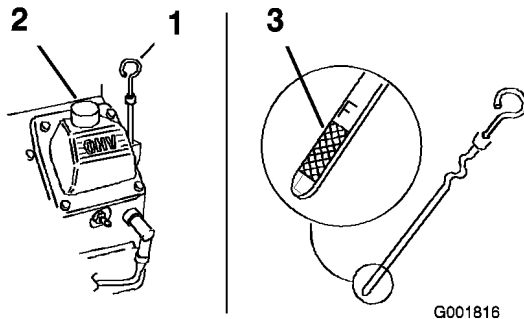

Figure 39
3. Clean around the oil dipstick (Figure 39) so dirt cannot fall into the filler hole and damage the engine.
4. Pull the oil dipstick and wipe the metal end clean (Figure 39).
5. Slide the oil dipstick fully into the filler tube. Pull the dipstick out and look at the metal end (Figure 39). If oil level is low, slowly pour only enough oil into the filler tube to raise the level to the full mark.
7. Slowly pour approximately 80% of the specified oil into the filler cap (Figure 39).